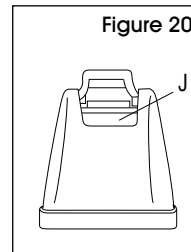

Figure 20
3. Pour detergent into tank. Fill tank to fill line (J) (1 gallon) with hot tap water. (See Figure 20)